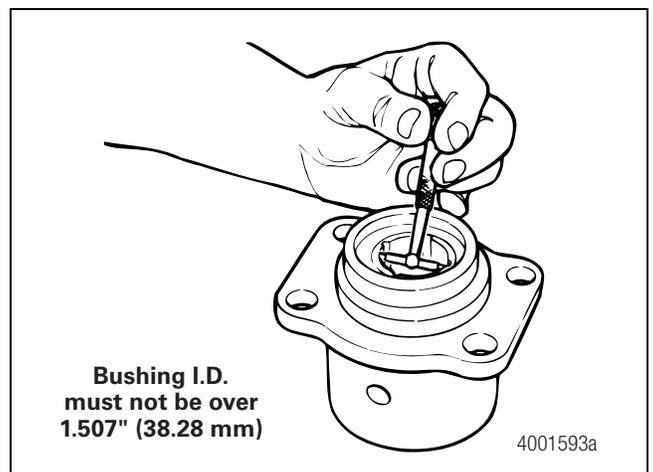

Figure 7.7
12. Measure the inner diameter of the bushing in the camshaft cap. The inner diameter must not exceed 1.507-inches (38.28 mm). If the inner diameter exceeds specification, discard the camshaft cap and bushing assembly. Use a new assembly when you assemble the caliper. Figure 7.7.